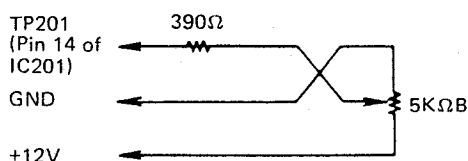

Fig. 1b
- (2) Connect the AGC bias control shown in Fig. 1b. to TP201 (pin 14 of IC201) and adjust IF AGC bias to 8V. (IF GAIN attenuation is approx. -26dB).